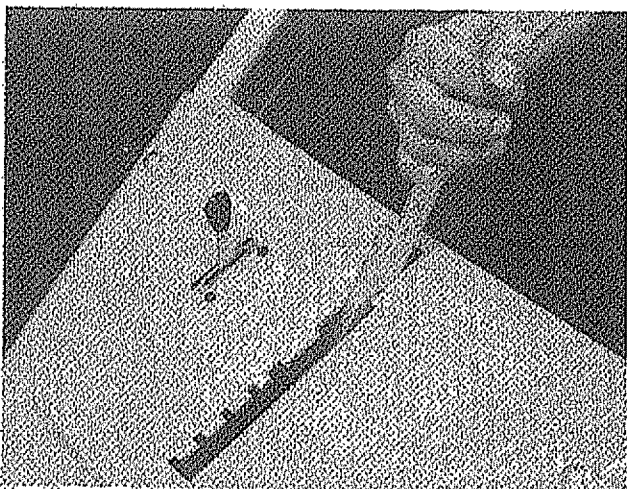

FIGURE 18.
- F. Reverse (R)—Pull the gear shift lever back (upward) slowly to obtain reverse. Always use caution when using the reverse. When using reverse, if gear shift lever is released it will snap back into neutral (N). See figure 18.